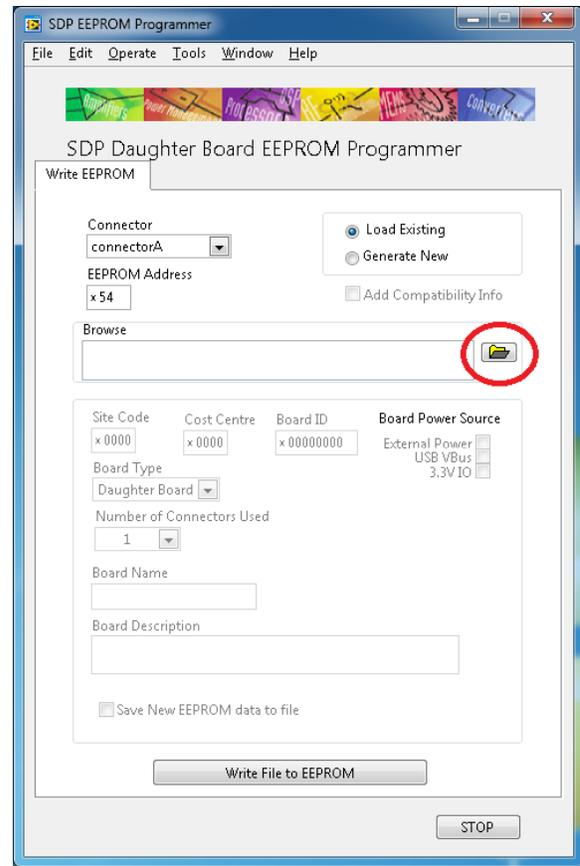
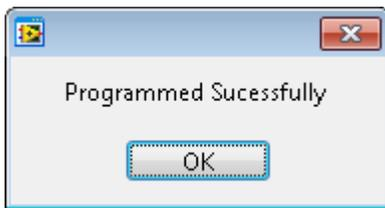

Figure 3. EEPROMProgrammer.exe GUI
Figure 5. EEPROM Programmed Successfully
2. Run the EEPROMProgrammer. The GUI should appear as in Figure 3.
4. This will place you back in the GUI as shown in Figure 3. Click on 'Write File to EEPROM' and a window should appear as shown in Figure 5, indicating that the EEPROM has been programmed successfully.